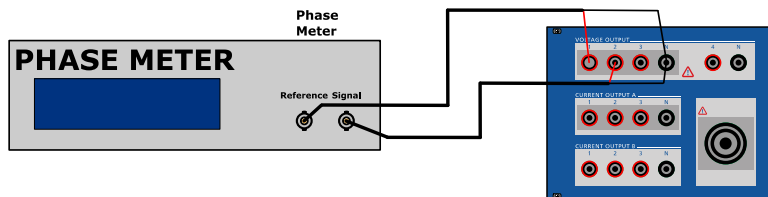

Figure 7 Phase verification setup for voltage outputs.
- Connect Voltage Output 1 (V1) to the reference connector on the reference phase meter (Figure 7).
- Connect the channel to be tested to the signal connector on the reference phase meter (Figure 7).